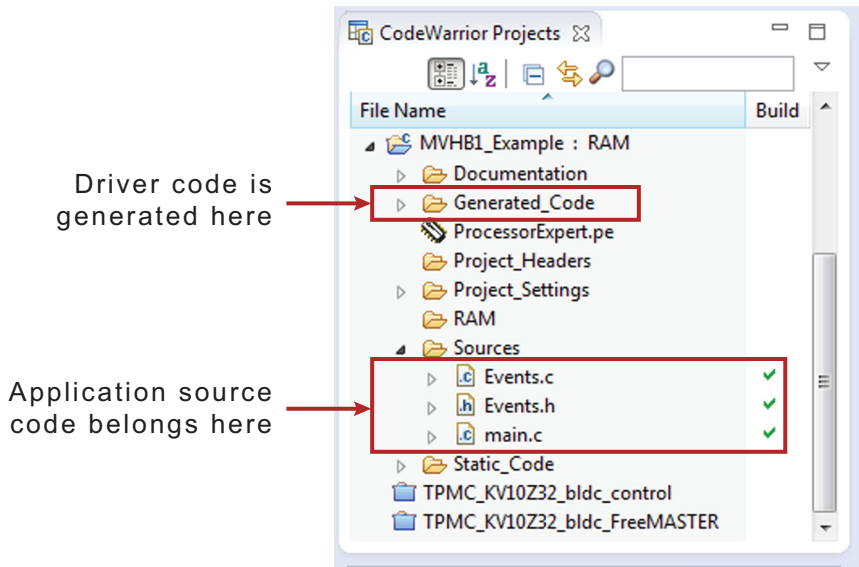

Figure 41. Source code locations
2. The driver code for the H-Bridge device is generated into the **Generated_Code** folder in the **Project** panel. The component only generates the driver code. It does not generate application code. Figure 41 shows the locations of the generated driver source and the application code.